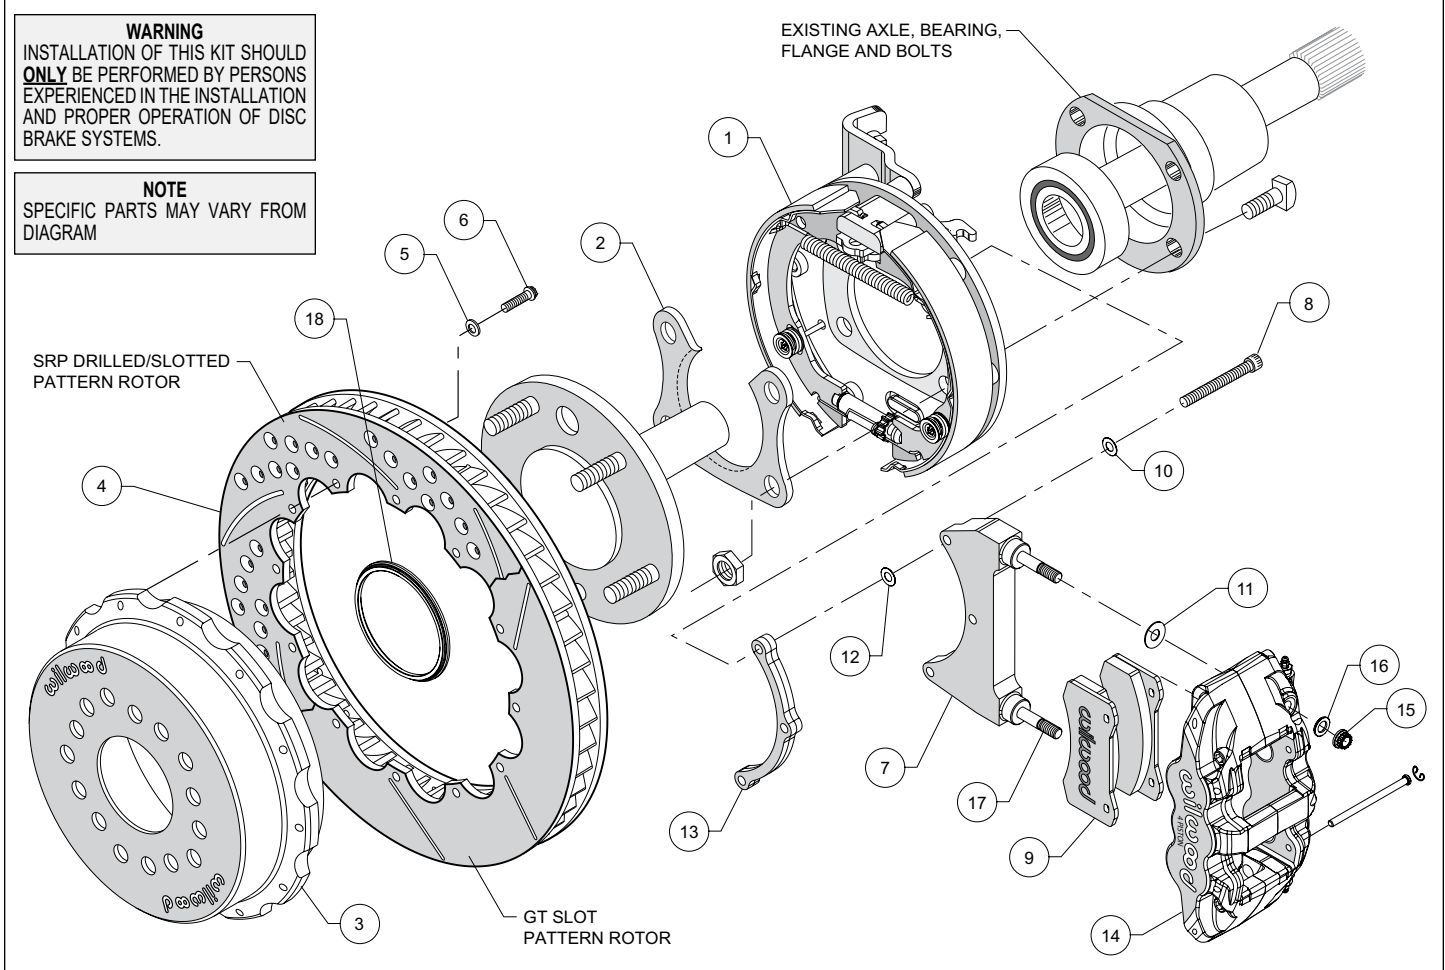

Figure 1. Typical Installation Configuration
- Orient the bracket assembly (1) as shown in Figure 1, and slide it onto the axle flange. Ensure that the bracket assembly backing plate fits flush against the housing flange. Insert the axle shaft into the axle housing.
- Install the bearing retainer (2) with the opening pointing upward and the lip facing inward (toward the bearing), as shown in Figures 1 and 4. Secure using the Original Equipment Manufacturer
(OEM) bolts and nuts, Figure 1. Apply red *Loctite*® 271 to the OEM bolt threads and torque to OEM specifications.
- **NOTE:** Please reference the caution statement at the beginning of the assembly instructions. The caliper mounting bracket assembly (7) should be installed first with clean, dry threads on the mounting bolts (8). Install the bracket from the rear side of the bracket kit assembly (1) by sliding bolt (8) through lock washer (9), flat washers (10 and 11) bracket (7), shim washer (12) and finally through the spacer (13), see Figure 1. **NOTE:** End of bolt should not exceed inside face of insert. The bracket must tighten squarely against the back side of the bracket kit assembly (1). Inspect for interference from casting irregularities, machining ridges, burrs, etc. Use one thin shim (12) between the bracket (7) and spacer (13) during initial trial fitting.
- Lubricate caliper mounting studs and nuts with lightweight oil. Install one shim (11) over each pre-installed stud (17) on the radial mount bracket (7). Slide the caliper (14) in place over the studs and rotor, then install the washer (16) and lock nut (15) to hold the caliper in place. The caliper bleed screws should be pointing up. Snug the lock nuts (15) and check that the rotor (4) is centered in the caliper (14). Add or subtract .015" shims (12) as necessary between the caliper mounting bracket (7) and the spacer (13) to center the caliper (14).
- Remove the two pad retaining pins from the caliper (14) by carefully popping out the pin retaining clips and sliding out the pins. Insert the brake pads (9) into the caliper from the bottom, Figure 1. With the friction material facing the rotor, secure the brake pads in place with the pad retaining pins and clips. Reinstall the caliper onto the caliper mounting bracket and temporarily tighten the lock nuts. Check that the top of the brake pad is flush with the outside diameter of the rotor. If not, adjust by adding or subtracting shims (11) between the caliper and the bracket.
- Adjust the parking brake shoes outward (using a drum shoe adjustment tool available at your local auto parts store) while spinning the hat (3) until a slight drag is felt against the hat/drum. Remove the lug nuts that were holding the hat/rotor in place. Install the wheel and lug nuts. Check to see that the wheel rotates freely without interference.
- Once all clearances have been checked, remove the wheel, caliper, hat/rotor from the bracket kit assembly (1). Secure the